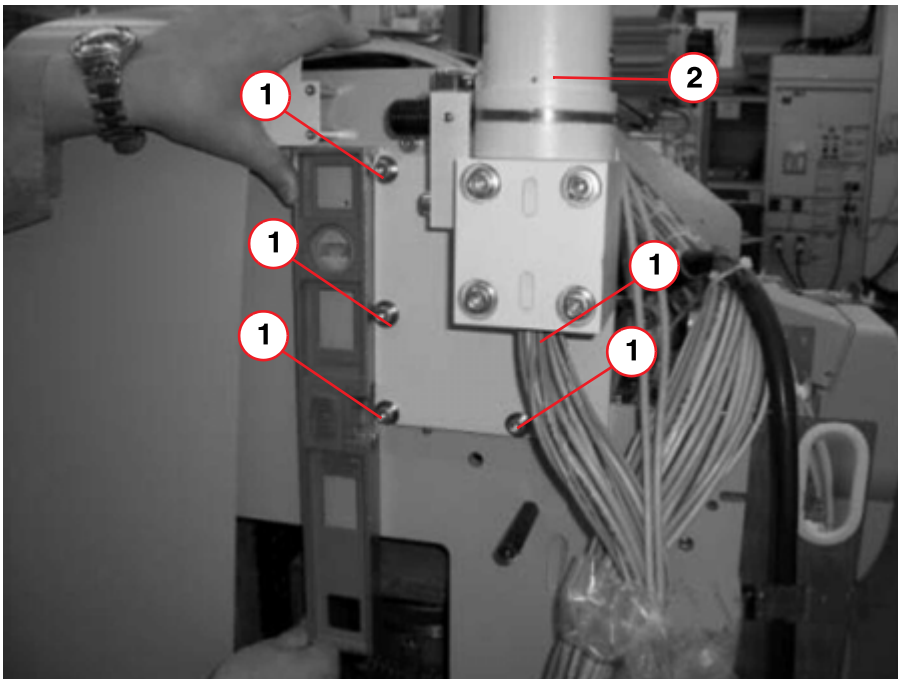

Fig. 42: Support arm connections
- Remove the remaining 4 of the 5 cylinder-head screws M8 x 25 DIN 912 (1/Fig. 42 / p. 66).